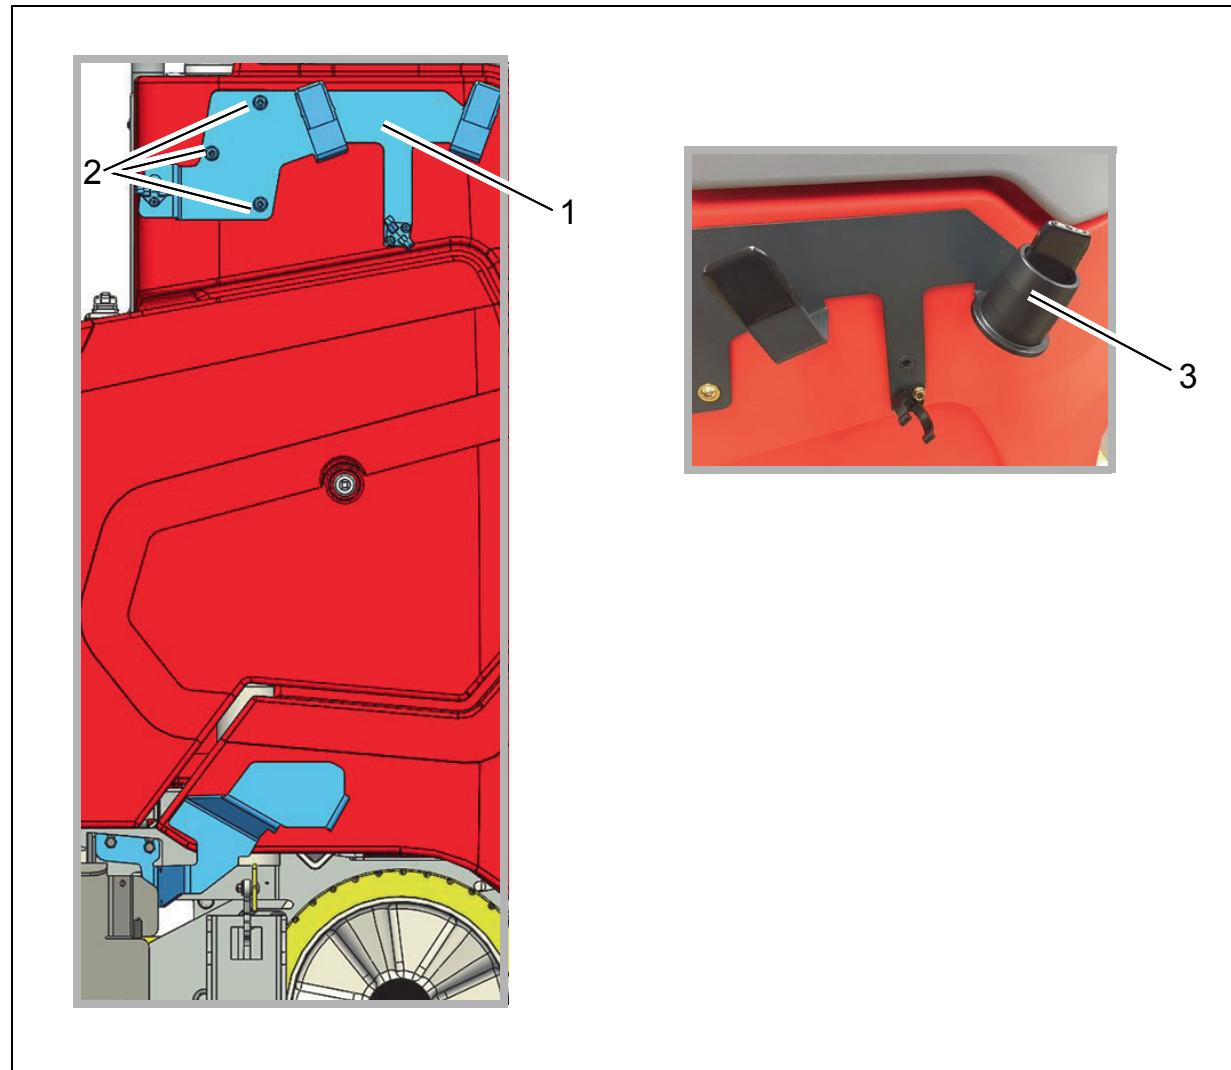

Fig. 2
1. Holder, pre-assembled (Fig. 2/1) fit to left side of machine with flanged button head bolts M8x12 (Fig. 2/2) as shown in the illustration. Maximum tightening torque 10 Nm.
2. Fit sleeve to holder (Fig. 2/3)
Machine with rotating brush(Fig. 2/A)
1. Slacken M8x25 fastening screws of the side scraper a little (Fig. 2/1). Slide set-down plate until it comes up against the slackened screws (Fig. 2/2).
Machine with roller brush (Fig. 2/B)
1. Slacken M8x25 fastening screws of the side scraper a little (Fig. 2/3).
2. Guide the set-down plate through the opening of the scraper (Fig. 2/4).
3. Slide set-down plate until it comes up against the slackened screws (Fig. 2/5).